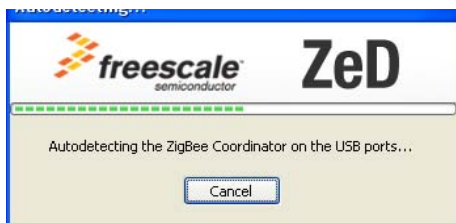

Figure 3. Automatic Detection of the ZigBee Coordinator Port
3. After pressing the Next>> button, ZeD tries to automatically detect the COM port that corresponds to the Combined Interface board serving as the ZigBee Coordinator. Figure 3 shows the ZeD window as it tries to autodetect the Combined Interface board.